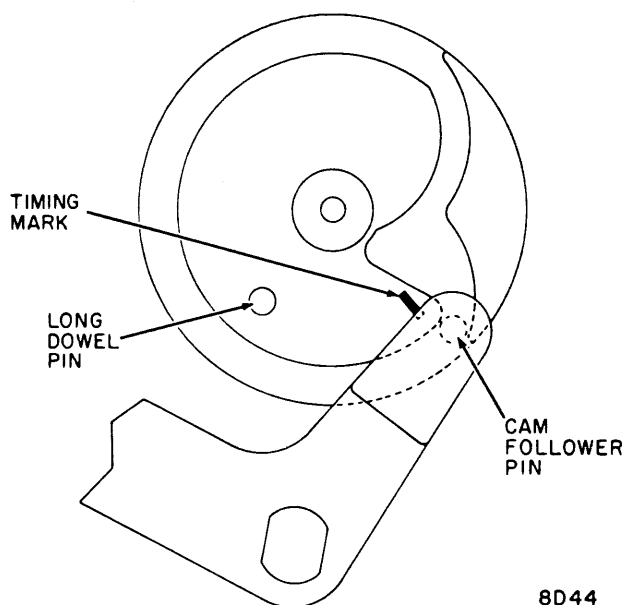

Figure 3-25. Cam Position for Adjusting Brush Cycle Switch
9. Manually rotate disk cleaner cam counterclockwise (from below) and align cam follower pin and cam timing mark (Figure 3-25).
5. Manually rotate disk cleaner cam clockwise (from below) to align cam follower pin and cam timing mark (black line, Figure 3-25).
8. Rotate switch away from long dowel pin (Figure 3-25) until switch transfers (meter reading goes from 0 ohms to infinity). Disconnect probes.
11. Check adjustment by manually rotating cam 20 degrees counterclockwise then clockwise until timing mark lines up with cam follower (Figure 3-25). Switch should transfer, if not, repeat steps 8, 9, and 10.